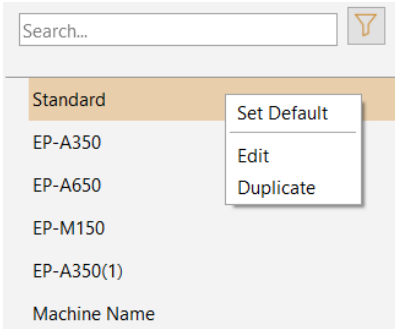

Figure 12.16 The context menu of machine
4) In the "My Device" dialog, right-click the machine item, the menus of "Set Default", "Edit" and "Duplicate" will appear, as shown in Figure 12.16.